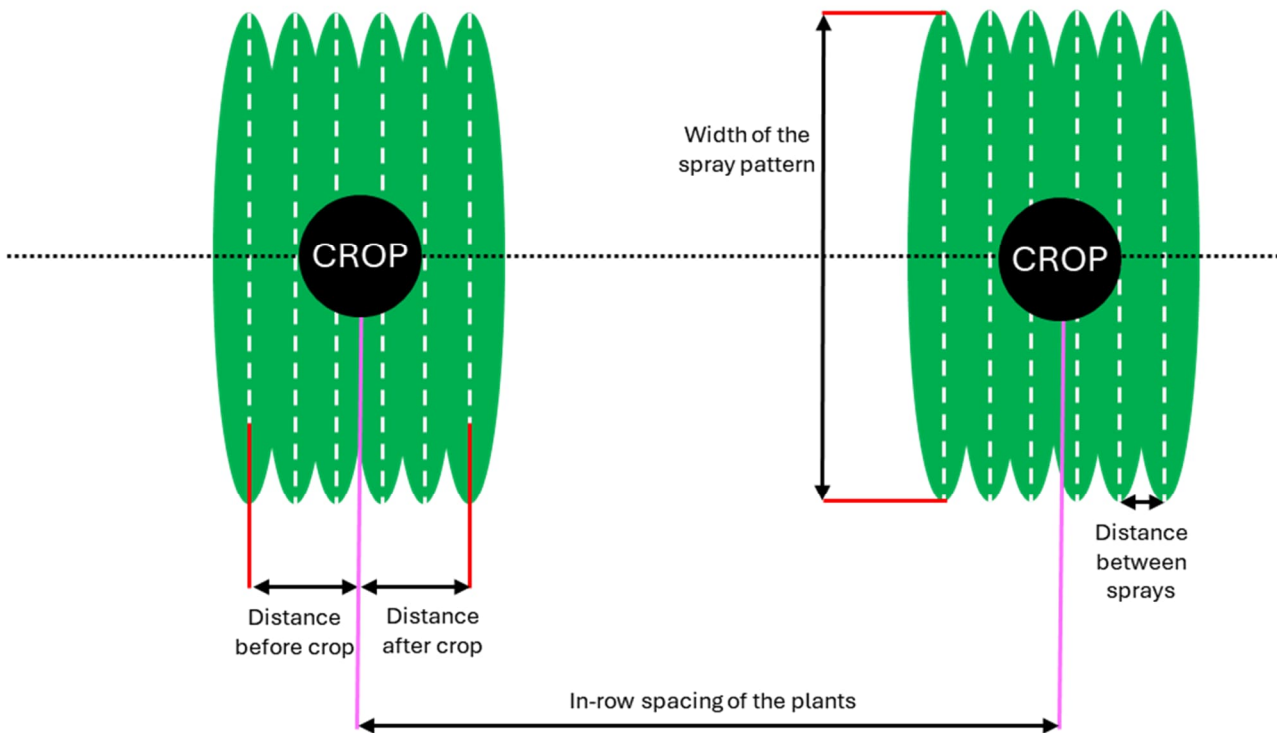

Figure 11 - Spray pattern adjustments: the vertical dashed lines illustrate each spray pulse from the nozzle
8. **Pulse distance** – it is the distance between the spray pulses (Figure 11 in the next paragraph as reference)
The parameters influencing the spray pattern are reported in the table below, as well as shown graphically in Figure 11.